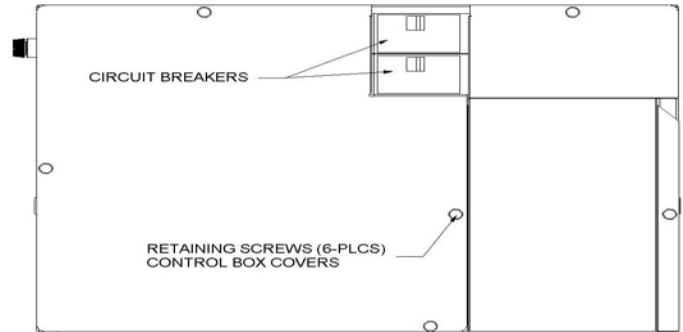

Figure 7: Control Box Cover
4. Remove all 6 screws on the control box cover and remove both covers. Refer to Figure 7.